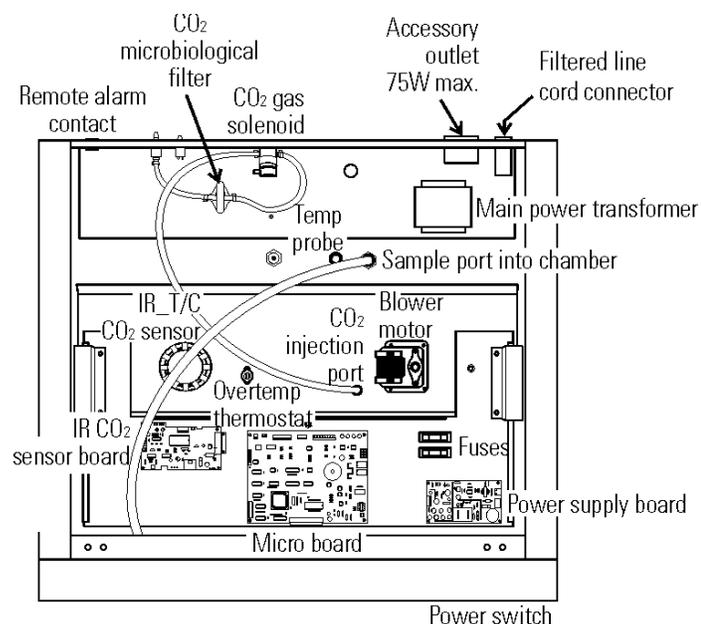

Figure 4-8
5. Refer to Figure 4-8 for the location of the two fuses.